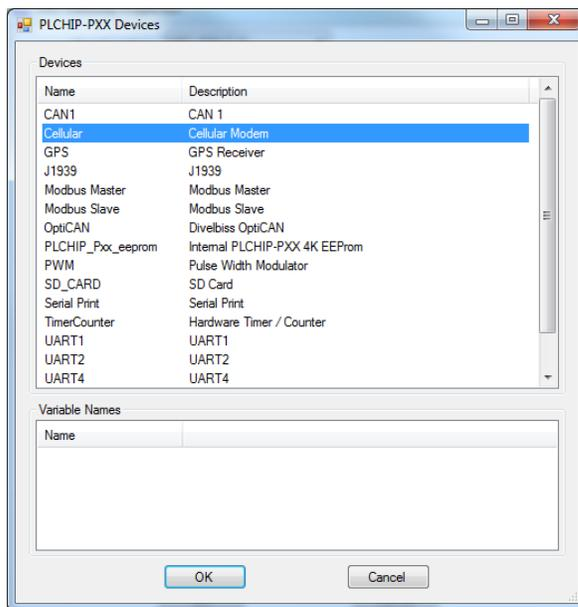

Figure 2-45 - PLCHIP-PXX Devices - Cellular
4. Click / select **Cellular** (highlight). Refer to Figure 2-45. Click **OK**. The Cellular Properties window will open identifying UART1 as the interface for the Cellular Modem. Click **OK**.